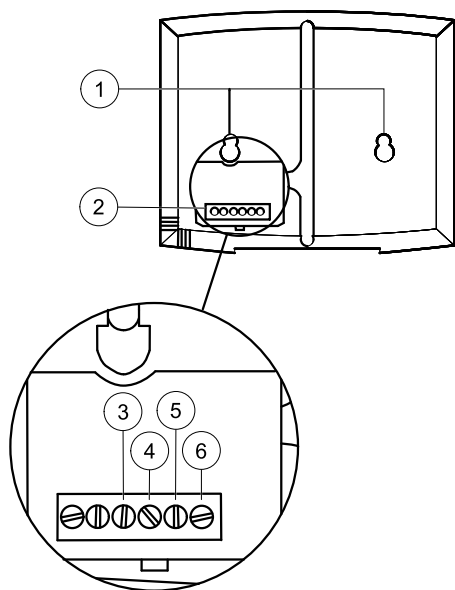

Fig. 14 Control panel wire connections
The control panel is delivered connected to the Corrigo control unit situated in the electrical connection box. Cable length is 10 m. In case the control panel needs to be detached from the signal cable it is possible to loosen the wires on the back of the control panel (figure 14).
2. If needed, drill two holes in the wall to hang the control panel (center to center: 60 mm) (pos.1, figure 14).